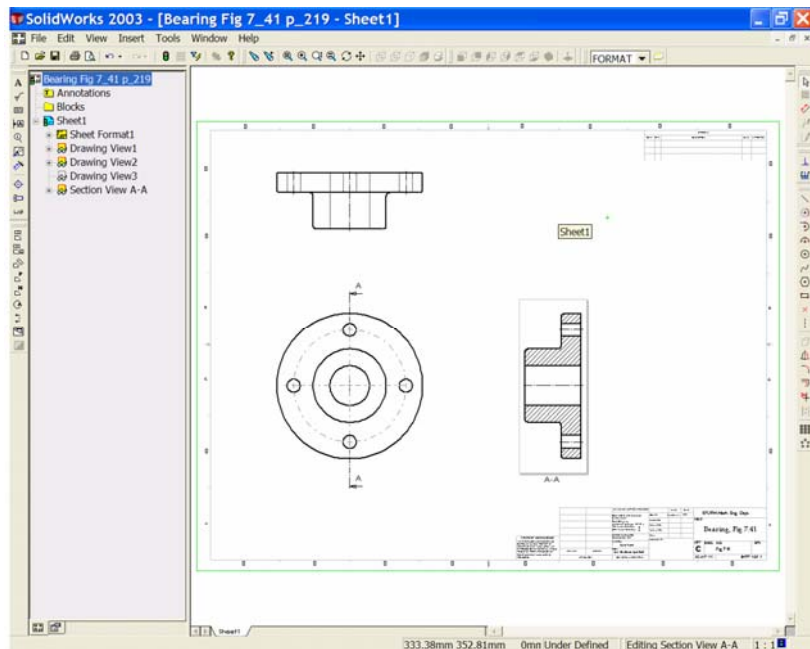

Figure 9
- Now we need to add centre lines to the views. Activate the section view and select '**Centreline**' from the '**Annotations**' toolbar. Centrelines are placed through the cylindrical parts. Switch on '**Hidden Edges**' for the Plan and repeat the procedure for the Plan. See Figure 9.